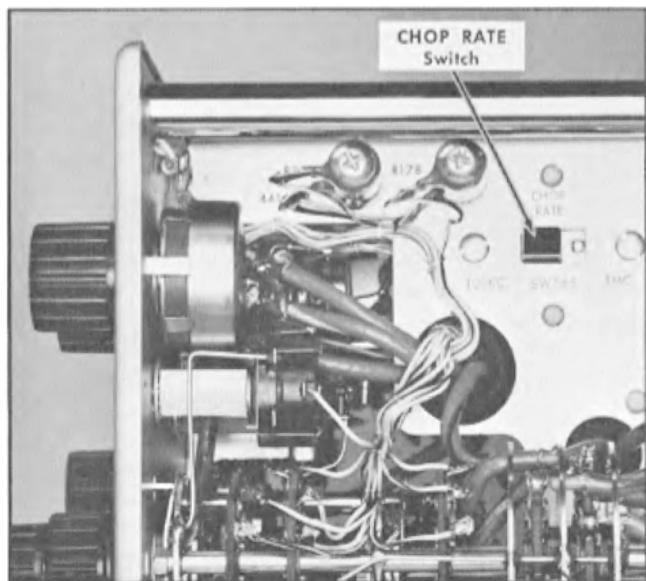

Fig. 2-1. Right side front portion view of the Type 82 showing the location of the CHOP RATE switch.
1. Set the internal CHOP RATE slide switch (see Fig. 2-1) to the 100 KC position.